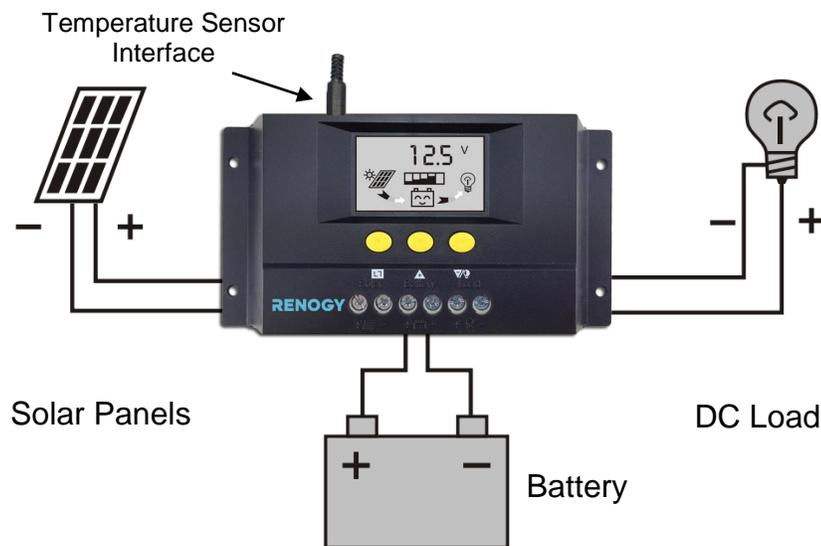

Figure 1.1 Charge Controller Diagram
3. As shown in **Fig. 1.1**, do the connections in the following order:
4. Plug the external thermal sensor into the interface as shown in **Fig. 1.1**. **Do not lose this sensor; it is required for the proper operation of the controller.**